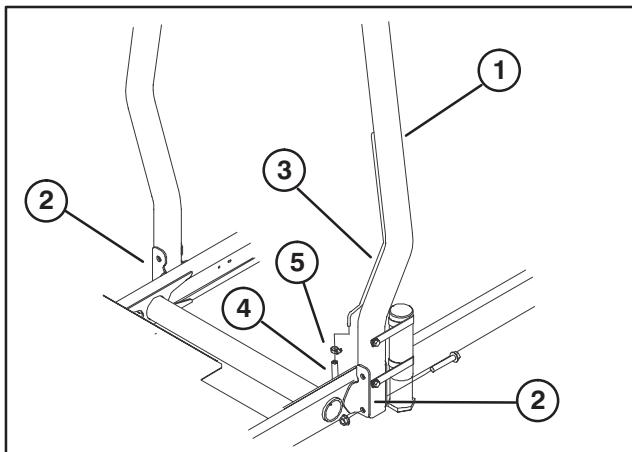

Figure 11
INSTALL ROPS (Fig. 11)
- Secure each side of roll bar to mounting brackets with (2) flange head capscrews and locknuts (Fig. 11). Torque fasteners to 60 ft-lbs.